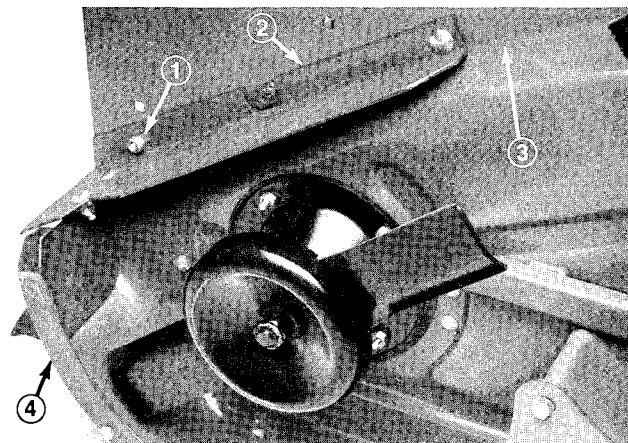
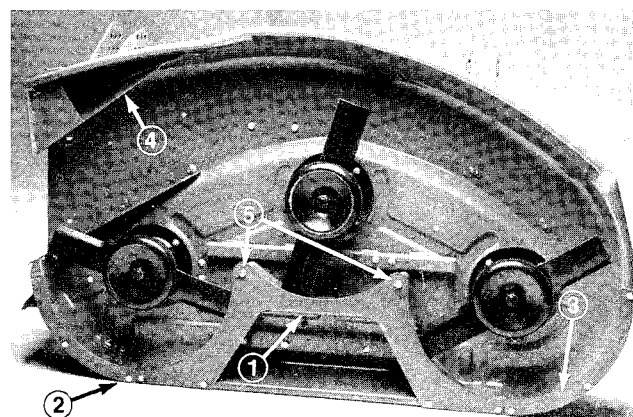

Figure 7
Figure 8
8. Using rearmost deflector mounting hole in deck, loosely mount outside end of rear baffle to deck with a 5/16-18x5/8" lg. carriage bolt and locknut (Fig. 7).
10. Position and secure center ring baffle to deck bosses with (2) 1/4-20x3/4" lg. self tapping screws and washers (Fig. 8).
11. Using center ring baffle as a template, mark and drill (4) 9/32" dia. holes thru center of curved edge of deck (Fig. 8).
12. Secure center ring baffle to deck with (4) 1/4-20x3/4" lg. capscrews and nuts.
13. Loosely mount right ring baffle to rear baffle with (2) 5/16-18x5/8" lg. carriage bolts and locknuts (Fig. 7).
14. Align right ring baffle with end of center baffle and edge of deck. Mark and drill (2) 9/32" dia. holes in curved edge of deck (Fig. 7).
15. Secure right baffle to deck with (2) 1/4-20x3/4" lg. capscrews and nuts. Remove carriage bolt securing right baffle to deflector mounting hole. Tighten all previously installed fasteners.
16. Align left ring baffle with end of center baffle and edge of deck. Mark and drill (3) 9/32" dia. holes thru center of curved edge of deck. Secure with (3) 1/4-20x3/4" lg. capscrews and nuts (Fig. 8).